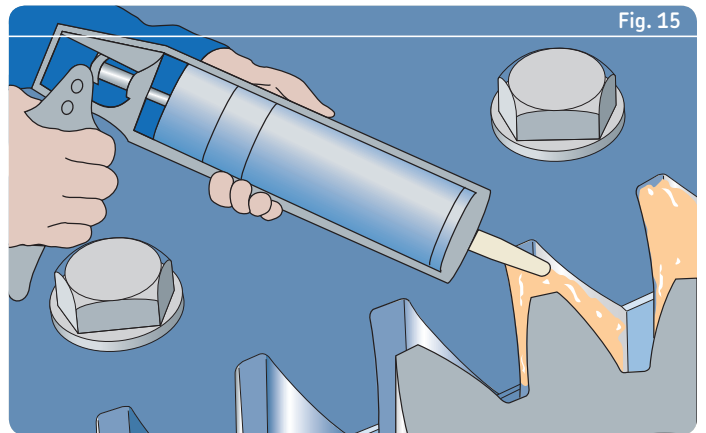

Fig. 15
- 18 Lubricate the gear. (→ **fig. 15**)